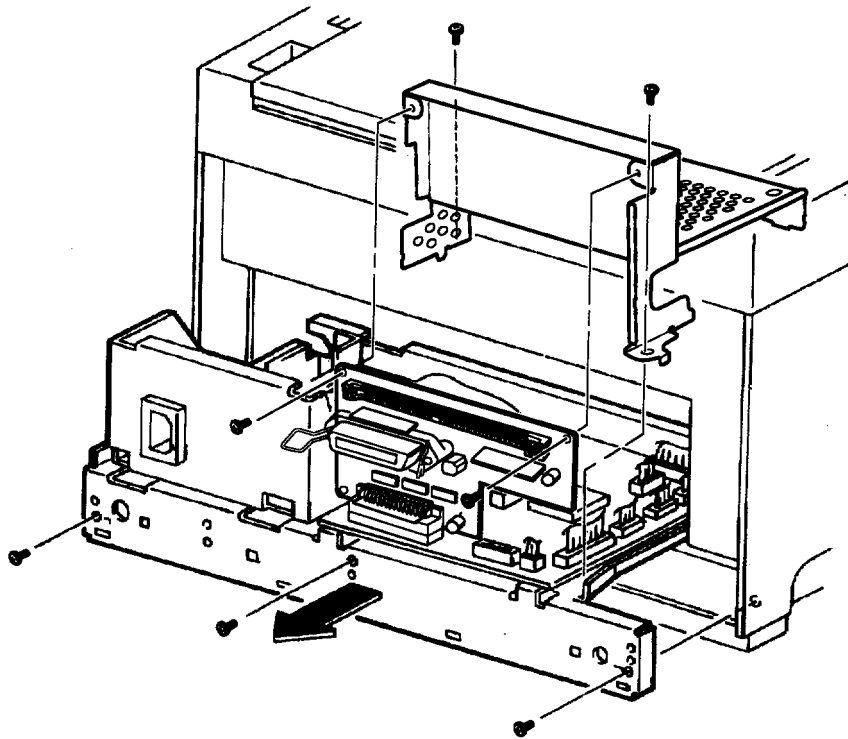

Figure 4-8. Removing the Electrical Chassis
2. Remove the 3 screws securing the Electrical Chassis to the printer body (Figure 4-8).